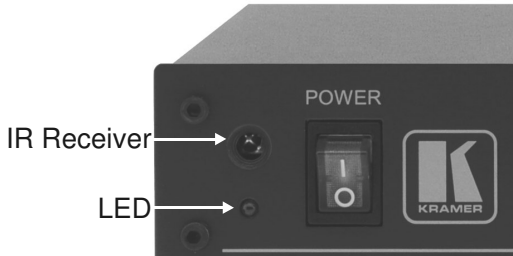

Figure 2: Built-in Remote Receiver
- Transmits to a compatible remote receiver, either built-in (see Figure 2) or external (see Figure 3). The transmitter includes non-volatile memory that retains the last setting, even after the power supply is interrupted
Most Kramer switchers1 include a built-in front panel remote receiver that is located to the left of the power switch, as Figure 2 illustrates: